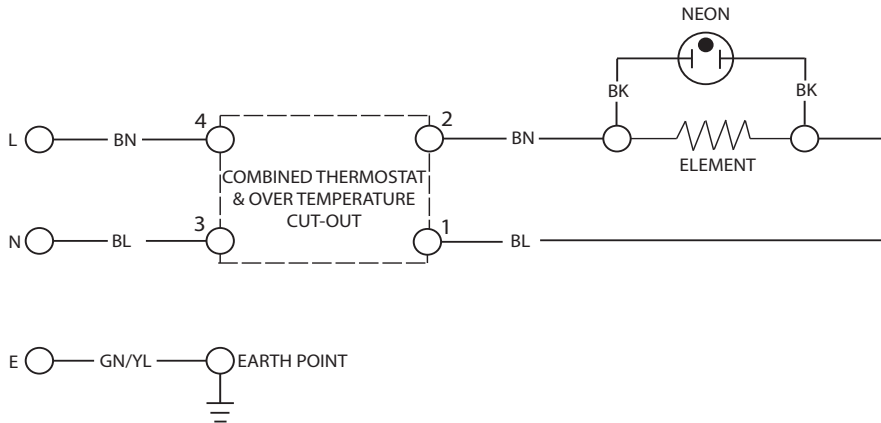

FIGURE 05: WIRING DIAGRAM
3.5.1 The unit is supplied fitted with a 0.75m 3 core 1mm² flexible cable. The electricity supply should be fused 13 Amp and be via a double pole isolating switch with a contact separation of at least 3mm in both poles. Refer to the schematic wiring diagram figure 05 below.
2. Thermal cut-out tripped	Check cut-out, if operated, reset and check thermostat operation. If necessary replace thermostat/thermal cut-out (see Wiring Diagram Fig. 05, page 8)